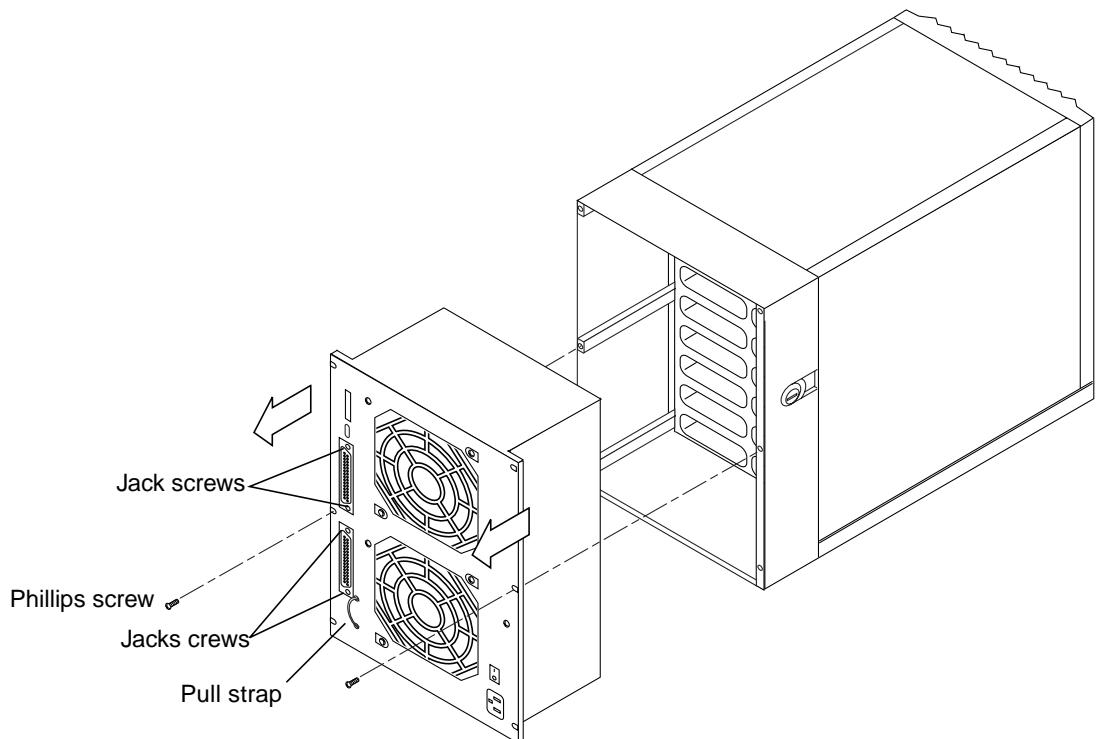

FIGURE 2-5 Removing the Power Supply
- 5. Remove the two Phillips screws that attach the power supply to the unit (FIGURE 2-5).**
- 6. Remove the four 3/16 inch jackscrews that secure the board to the power supply (FIGURE 2-5).**
- 3. Insert and tighten the four jack screws to secure the board to the power supply (FIGURE 2-5).**
- 4. Insert and tighten the two screws to secure the power supply in the enclosure (FIGURE 2-5).**